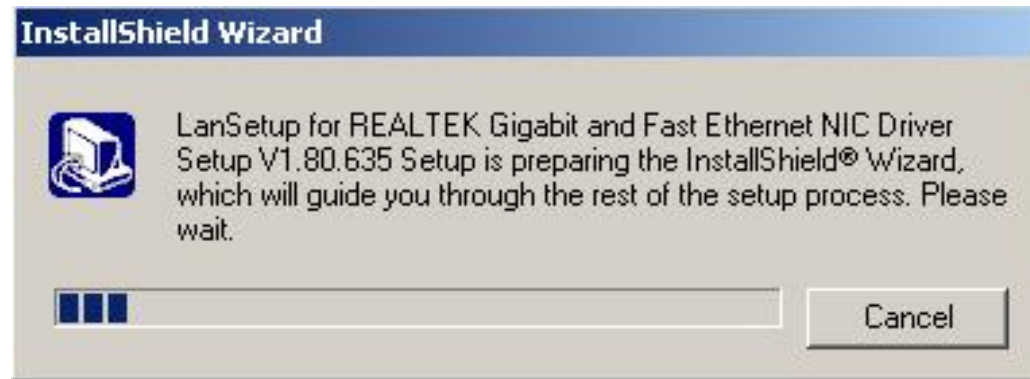

Figure 7-21: Preparing Setup Screen
Step 5: The **Install Shield Wizard** is prepared to guide the user through the rest of the process (**Figure 7-21**).